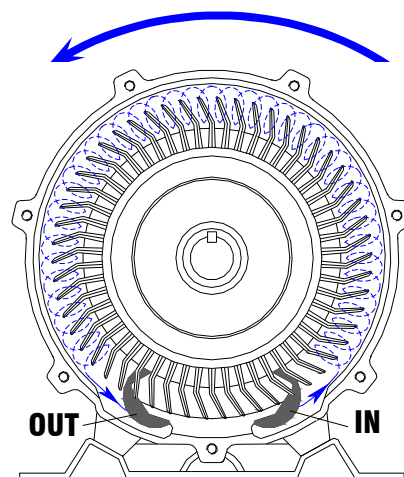

Fig. 2: Rotation and movement of air through the impeller, as seen from the compressor cover.
- After the installation, turn the blower on briefly and verify that the direction of rotation of the impeller is according the arrow and, therefore, air is sucked and blown by the respective inlet and outlet and not vice versa (see Figures 2, 3, 4 and 5).